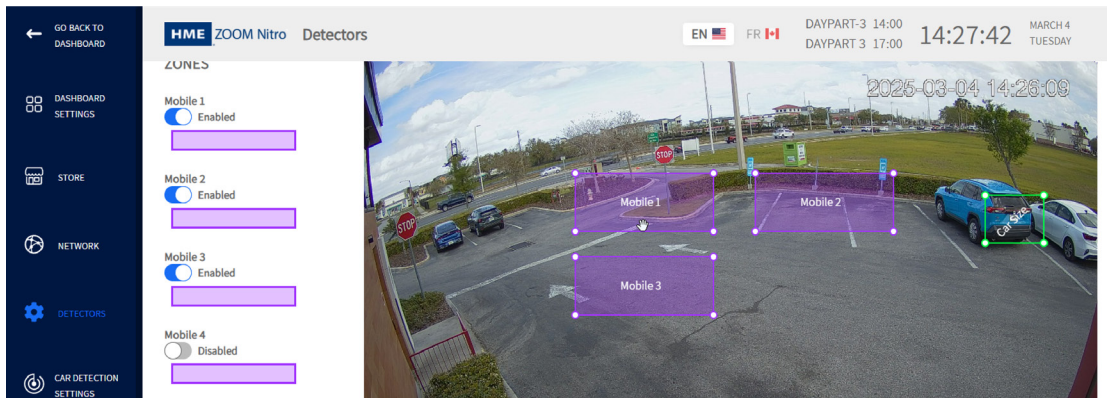

Fig. 23
- If Pick-Up Zones is selected, toggle the switch to enable a zone, and a polygon (in purple or blue) will appear in your camera view. Fig. 23 shows Mobile 1, 2, and 3 enabled, so three purple polygons appear in the camera view. When you move the cursor over a polygon, it turns into a hand that lets you drag it into position.